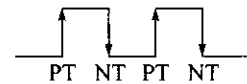

Fig. 7.2
Nearly all of the circuits in a digital system (computer) change states in *synchronism* with the system clock. A change of state will either occur as the clock transitions from low to high or as it transitions from high to low. The low-to-high transition is frequently called the *positive transition (PT)*, as shown in Fig. 7.2. The PT is given emphasis by drawing a small arrow on the *rising edge* of the clock waveform. A circuit that changes state at this time is said to be *positive-edge-triggered*. The high-to-low transition is called the *negative transition (NT)*, as shown in Fig. 7.2. The NT is emphasized by drawing a small arrow on the *falling edge* of the clock waveform. A circuit that changes state at this time is said to be *negative-edge-triggered*. Virtually all circuits in a digital system are either positive-edge-triggered or negative-edge-triggered, and thus are synchronized with the system clock. There are a few exceptions. For instance, the operation of a push button (RESET) by a human operator might result in an instant change of state that is not in synchronism with the clock. This is called an *asynchronous operation*.